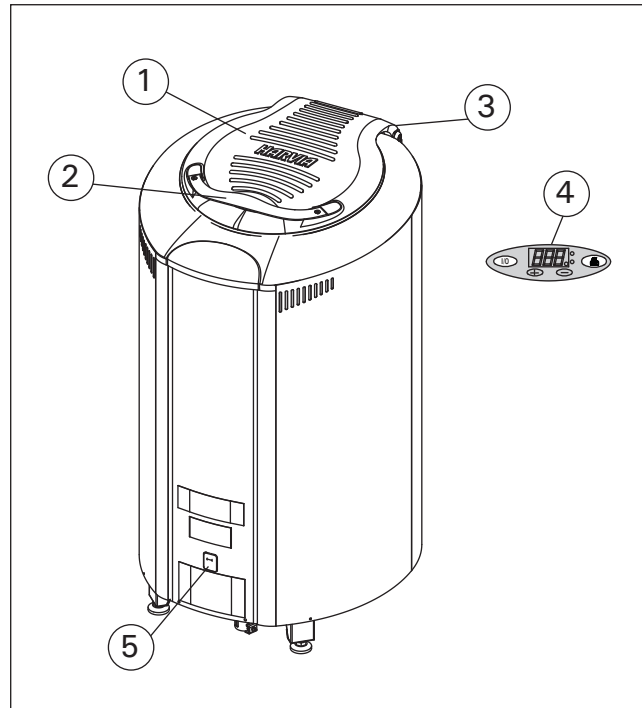
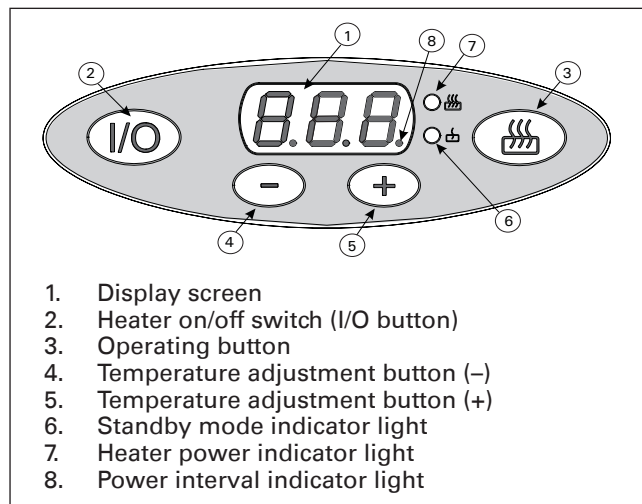

Figure 1. Heater parts
Figure 2. Control panel
2. Handle to safely open and close the cover (fig. 1).
The I/O button is used to switch the heater heating elements on and off. For this to happen, the electric switch must be switched on (see figure 1). The indicator light burns under the I/O button to indicate standby mode.
When the operating button is used to set full heater capacity (HI), the heater temperature is set to 500 °F (260 °C). This temperature cannot be set using the temperature adjustment buttons 4 and 5 (fig. 2). If the heater cover is closed while the heater operates at full capacity, the pre-set temperature of the stone space 500 °F (260 °C) can be achieved more quickly.
The electronics of the heater are switched on and off using the small electric switch with a swing mechanism 1 in front of the heater (fig. 1). When
To switch the heater on, press the I/O button. To indicate that current has been connected to the heating elements, the display shows the message LO (standby power). In addition, indicator light 6 (fig. 2) is lit up. The temperature of the stone space can be set to a maximum of 500 degrees Fahrenheit (260 degrees Celsius) by pressing the + button 5 (fig. 2). The minus button 4 (fig. 2) is used to lower the temperature if it has been set too high.
The electric power consumption of the heater can be monitored using indicator lamp 8 (fig. 2). See the section “Display screen.”
To switch on to full capacity, press the operating button 3 (fig. 2) once. The display screen 1 (fig. 2) indicates that the HI state (= full heater capacity) is in use. In the HI state, the stone space temperature increases towards the set value of 500 °F (260 °C). Full capacity is switched on for only one hour at a time, after which the heater automatically switches to the LO state with indicator light 6 burning (fig 2). After initial heating, the heater cover must be closed. If the stone chamber seems to emit odours, the cover can be left open for a while as the heater operates at full capacity (HI).
When the heater cover 1 (fig. 1) is opened, the air flowing through the hot stones and the heating elements begins to heat up the room. To ensure that the thermal energy stored in standby mode remains in the heater stones despite the cooling effect of air currents and the water thrown on the stones, the heater power should be switched on during bathing using the operating button 3 (fig. 2). “HI” will be
displayed on the screen for a while as an indication of the higher power and the indicator lamp 7 glows (fig. 2).